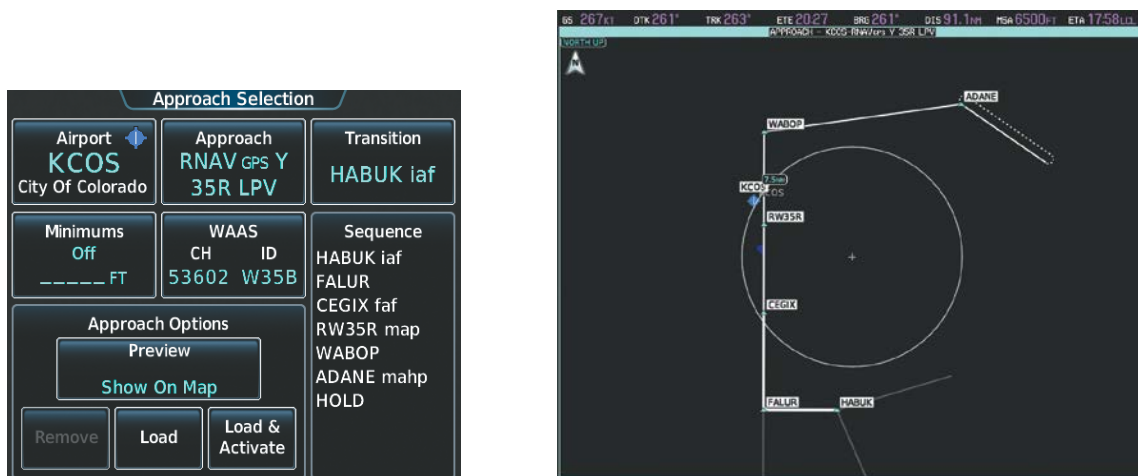

Figure 5-175 Approach Selected
- f) Touch the **HABUK iaf** Button to select it as the transition and return to the Approach Selection Screen as shown in Figure 5-175.